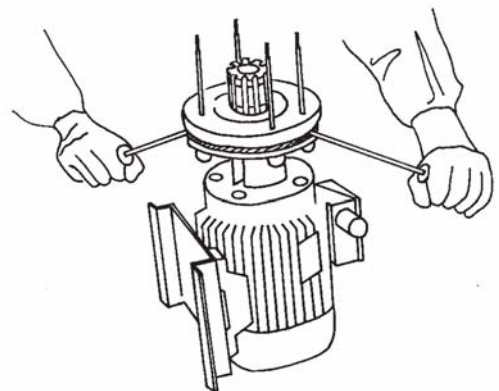

Fig.5
6) Introduce two screw-drivers into the relative openings on the posterior side of the rear block (pos. 9) and remove it by using the lever effect on the flange of the intermediate adaptor (pos. 8). With the same procedure the rotor is removed from the impeller (pos. 21), fig. 5. It is possible to separate the two double faces of the impeller (pos. 20) from the rotor (pos. 21) with the hands and a small lever.